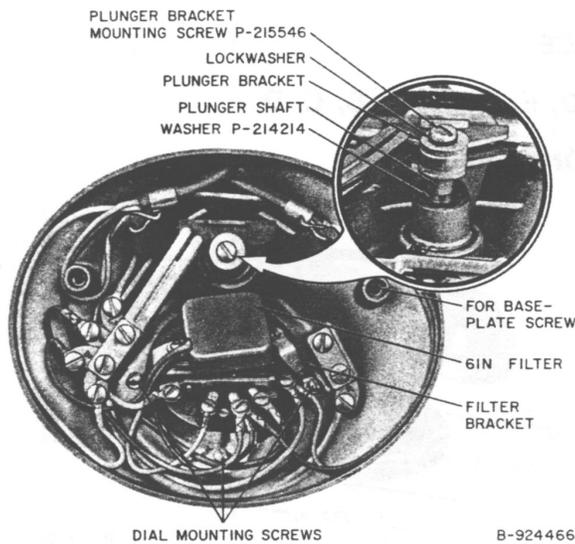

Fig. 3—Assembly of Filter on D-Type Handset Mounting (Dial)
2.03 When required, the 61N filter is used with the D-type handset mounting. When mounting a filter in a D-type handset mounting that is equipped with a 6-type dial, the dust cover must be removed from the dial and left off (Fig. 3).